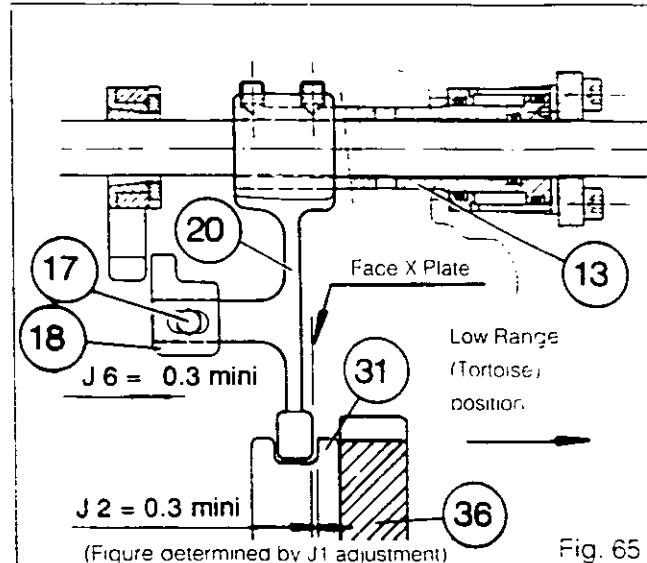

Fig. 65
222. Check that there is a play of  $J2 = 0.3 \text{ minimum}$  (value obtained by J1 adjustment) between the plate and the coupler with the latter in contact with the Low range gear (36) (Fig. 65).
**Note:** In Low range position, if the face X of the fork (20) plate is in contact with the coupler (Fig. 65) increase the play J1.